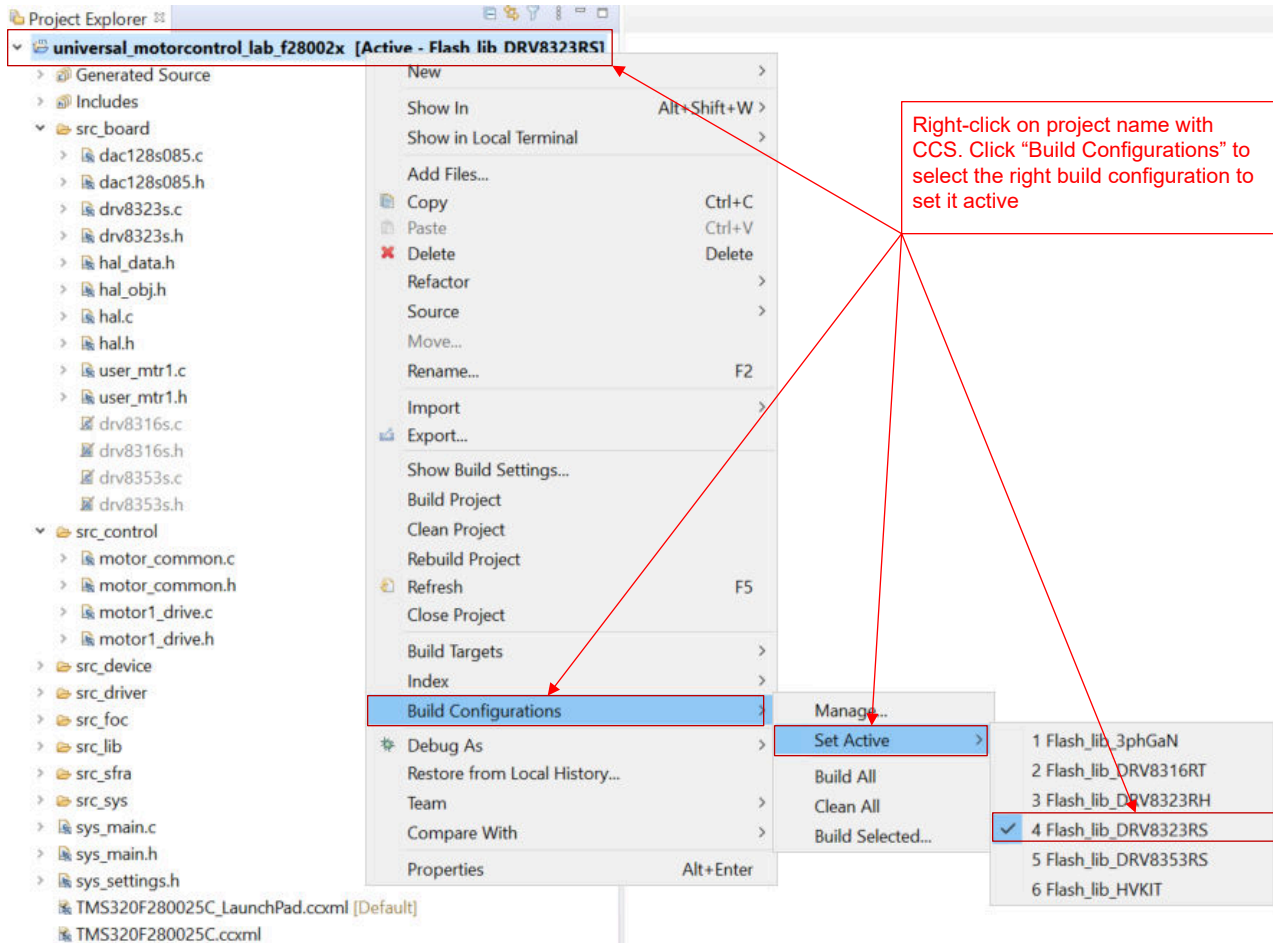

Figure 2-13. Select the Right Build Configurations within CCS
2. The lab project can be configured to create code and run on multiple kits. You may select one of these kits. Select the right build configurations (such as **Flash_lib_DRV8323RS**) by right-clicking on the imported project name as shown in Figure 2-13.